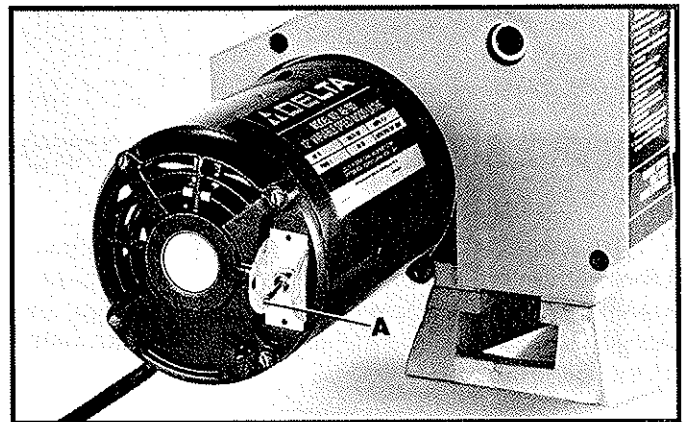

Fig. 15
The switch (A) Fig. 15, is located on the end of the motor. To turn the lathe "ON" move the switch to the up position. To turn the lathe "OFF" move the switch to the down position.